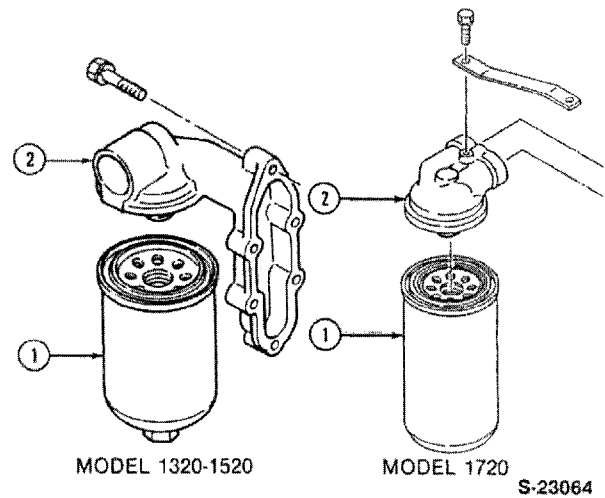

Figure 59
1. Remove the filter canister from the flange, Figure 59.